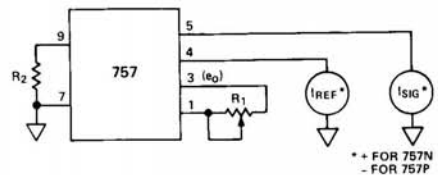

Figure 2. Scale Factor Adjustment
**Scale Factor** – A one volt per decade scale factor is available when pin 1 is tied to 3 and pin 7 is connected to 9. Higher scale factors are possible by using a potentiometer,  $R_1$ , between pins 1 and 3 and a resistor,  $R_2$ , between pins 7 to 9 as shown in Figure 2. The value of the required resistor is  $(13.2k\Omega)(K-1)$  where  $K$  is the desired scale factor. The approximate potentiometer value is also  $(13.2k\Omega)(K-1)$ . The scale factor adjustment procedure is as follows: